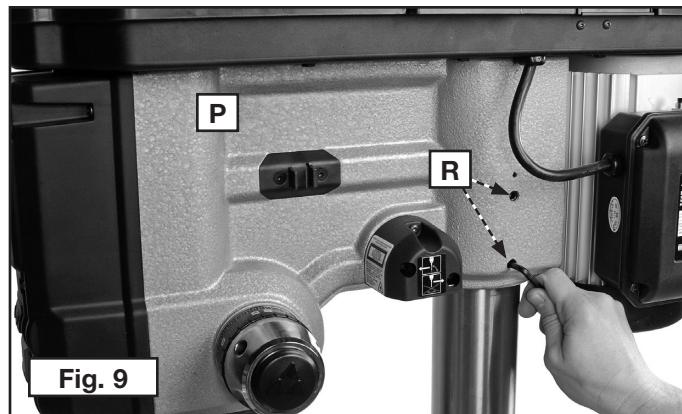

Fig. 9
1. Place the drill press head (P) Fig. 9 on the column as far as it will go.
3. Tighten the two head-locking screws (R) Fig. 9 with the 5 mm hex wrench supplied.